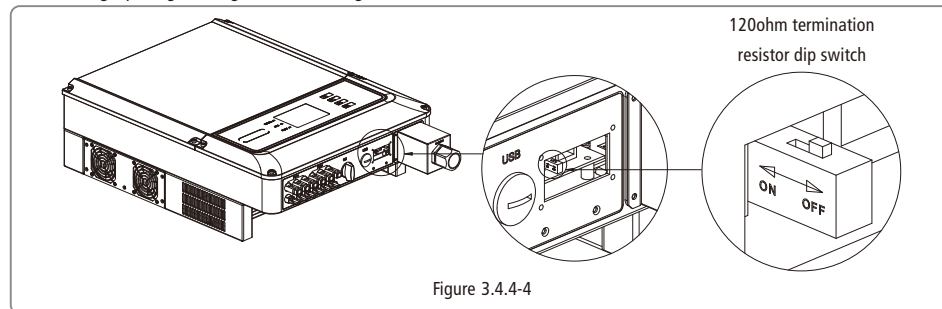

Figure 3.4.4-4
- For single inverter communication, put on the dip switch near RJ45 port. (The default is OFF). Then shielding layer of communication cable is single point grounding, illustrated as Figure 3.4.4-5.